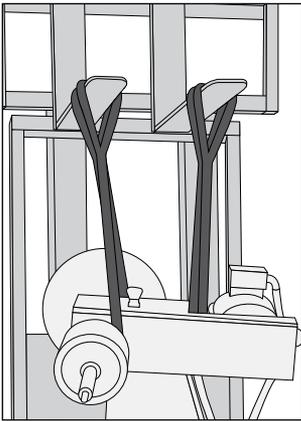

FIG. 3
- Make sure that straps are properly secured before lifting by positioning the loops as pictured in either of the images below (Fig. 3 & 4).